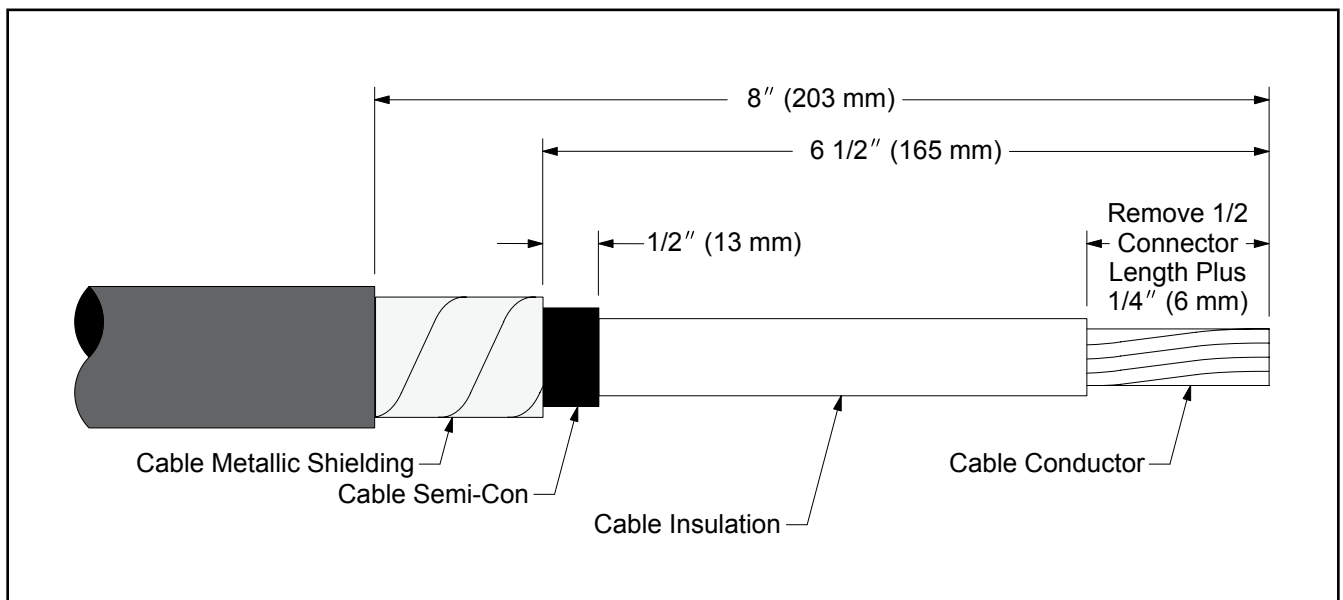

Figure 2
- a. Remove jacket a distance of 8" (203 mm) (*Figure 2*).